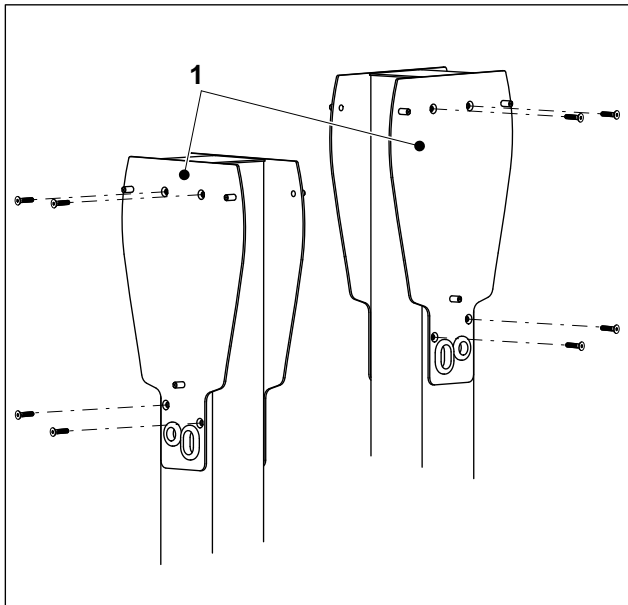

Fig. 5 Fastening the adapter plates to the column
4. Fasten the adapter plates (Fig. 5/1) to the column using the four M6x16 countersunk screws provided for each plate. Tightening torque 7 Nm.